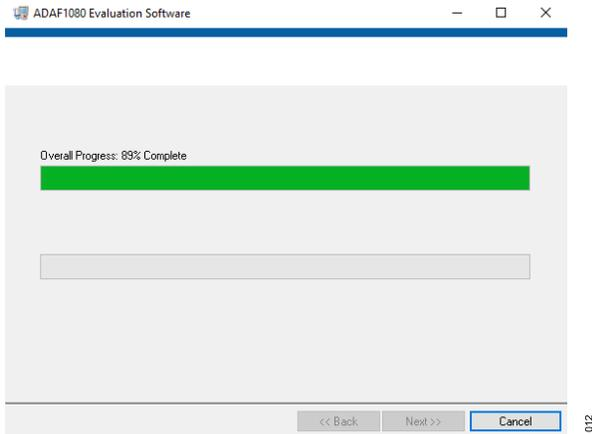

Figure 12. Overall Progress
7. A pop-up window opens and displays a bar showing the installation progress (see **Figure 12**).